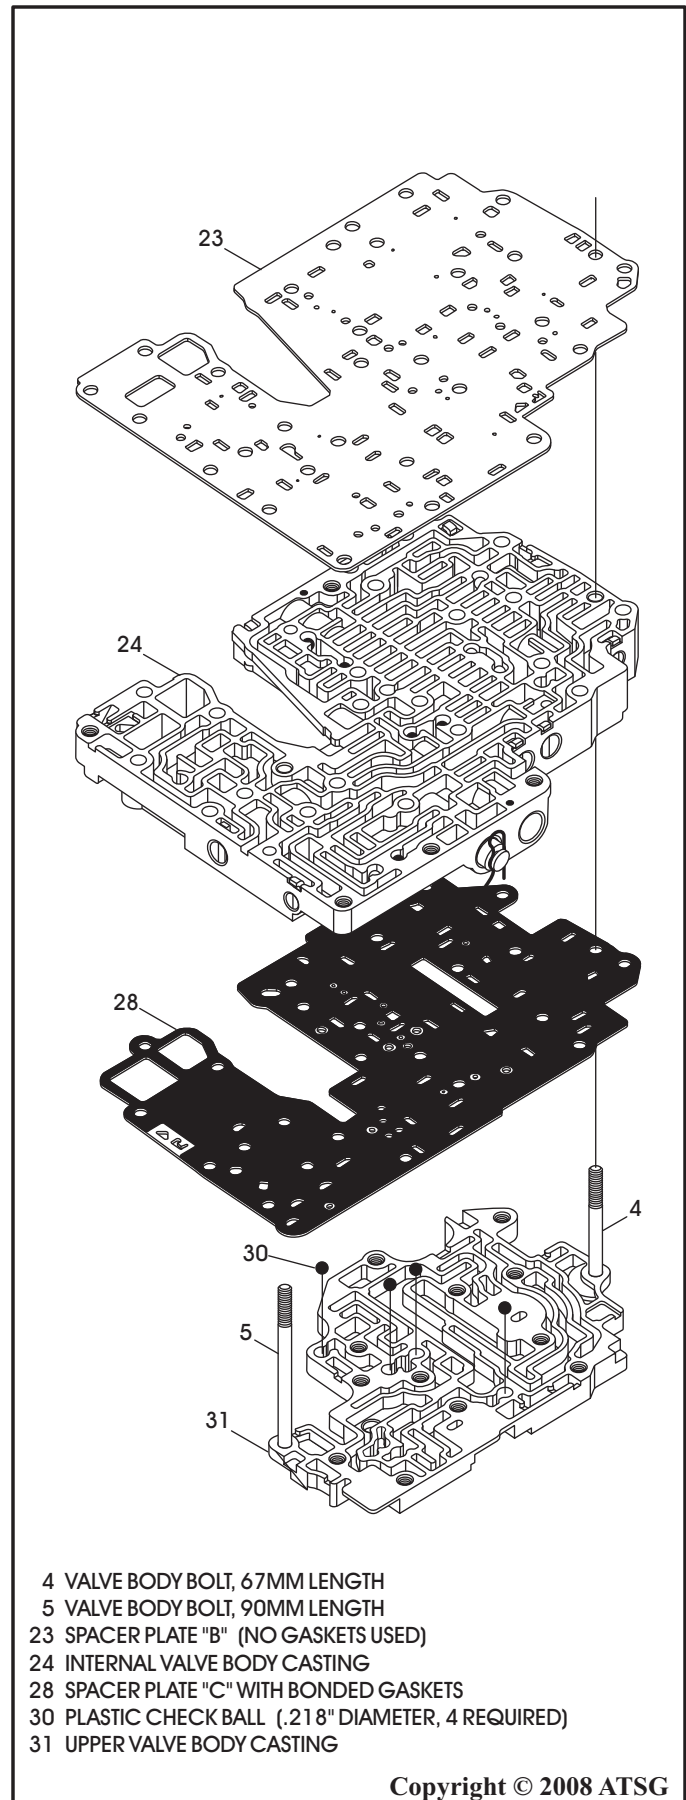

Figure 104
33. Install one 67mm bolt and one 90mm valve body bolt through the upper valve body casting as shown in Figure 104.
34. Lay the assembly on a flat work surface with the worm track side facing up, as shown in Figure 104.
36. Install spacer plate "C" with bonded gaskets over the two bolts and onto the upper valve body, as shown in Figure 104, ensuring that you have the proper spacer plate for the Freelander ("Triangle C").
37. Install the completed internal valve body over the two bolts and onto spacer plate "C", as shown in Figure 104, and ensure check balls are still in position.
38. Install spacer plate "B" over the two bolts, as shown in Figure 104, ensuring that you have the proper spacer plate with the "F" for the Freelander.